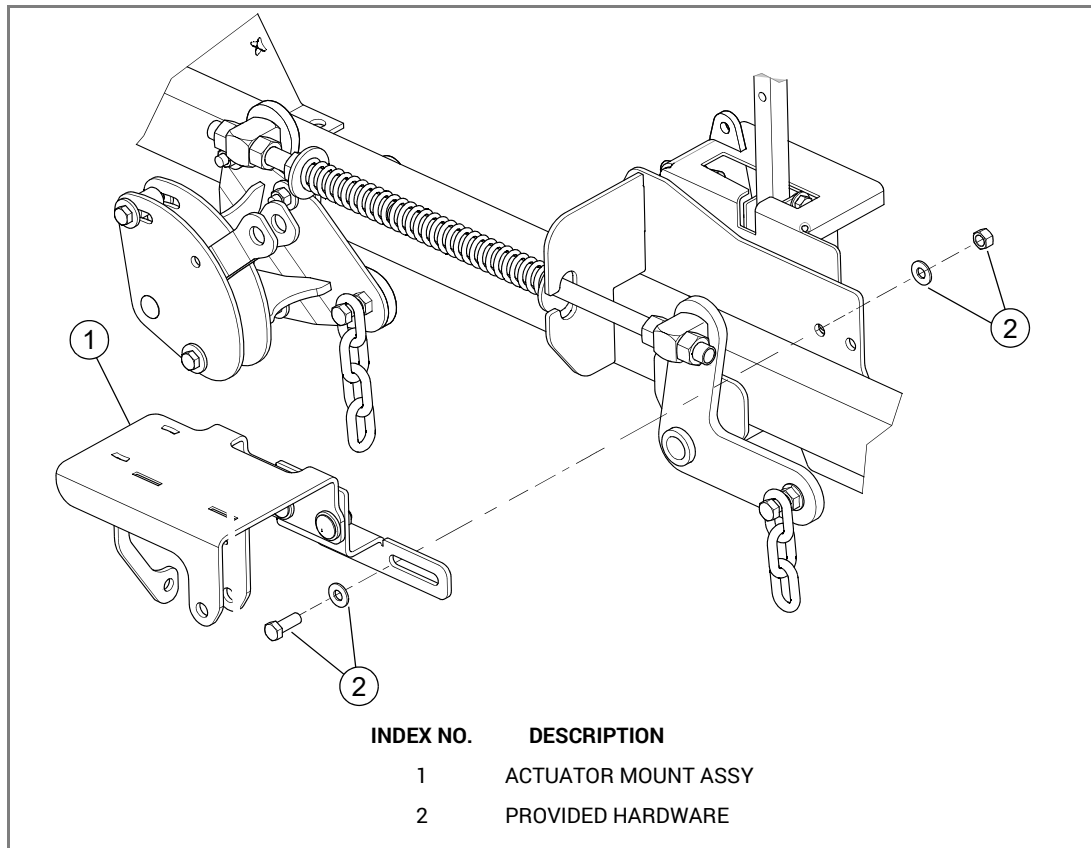

FIG. 7
12. Loosely attach the actuator mount assembly using the provided hardware. FIG. 7